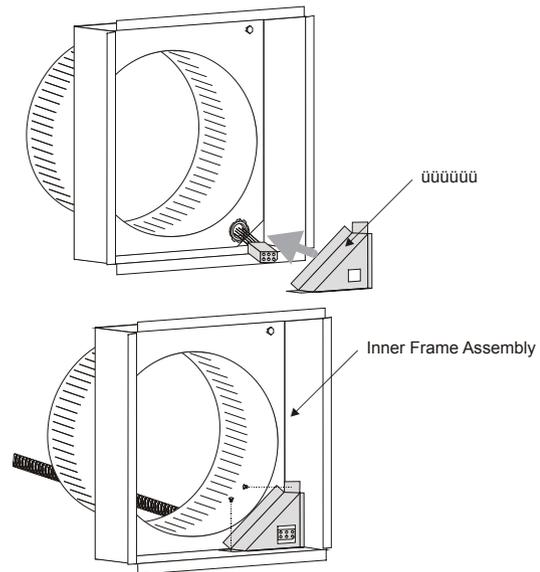

**Figure 5.** Assemble the mounting frame, collar, and conduit.
3. Screw the collar in place with three screws as shown in figure 5.